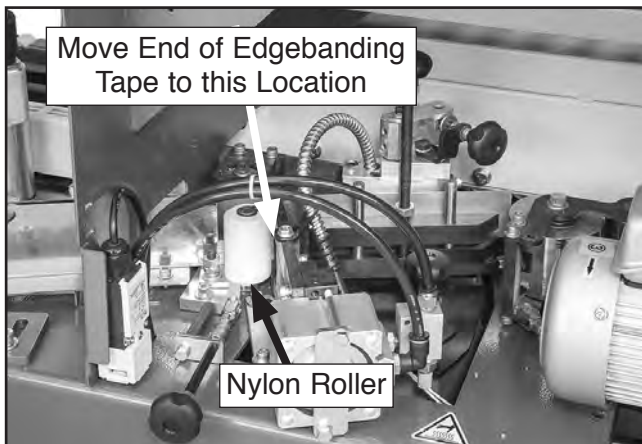

Figure 58. Starting position for edgebanding tape (viewed from rear of machine).
10. Move nylon roller release knob to the right, then manually move edgebanding tape back, until its end is just in front of nylon roller (see **Figure 58**). The edgebanding tape is now properly set up in starting position for operations.